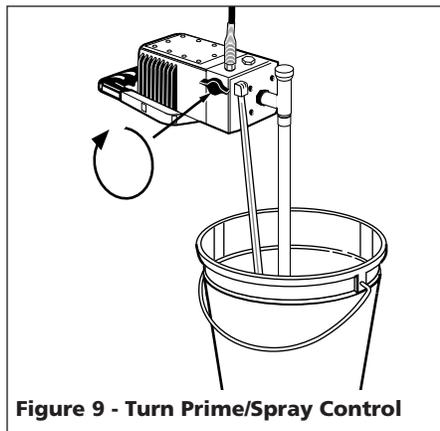

Figure 9 - Turn Prime/Spray Control
9. Turn Prime/Spray Control to Spray position (See Figure 9). Watch for any fluid leaks. See troubleshooting chart if leaks occur.